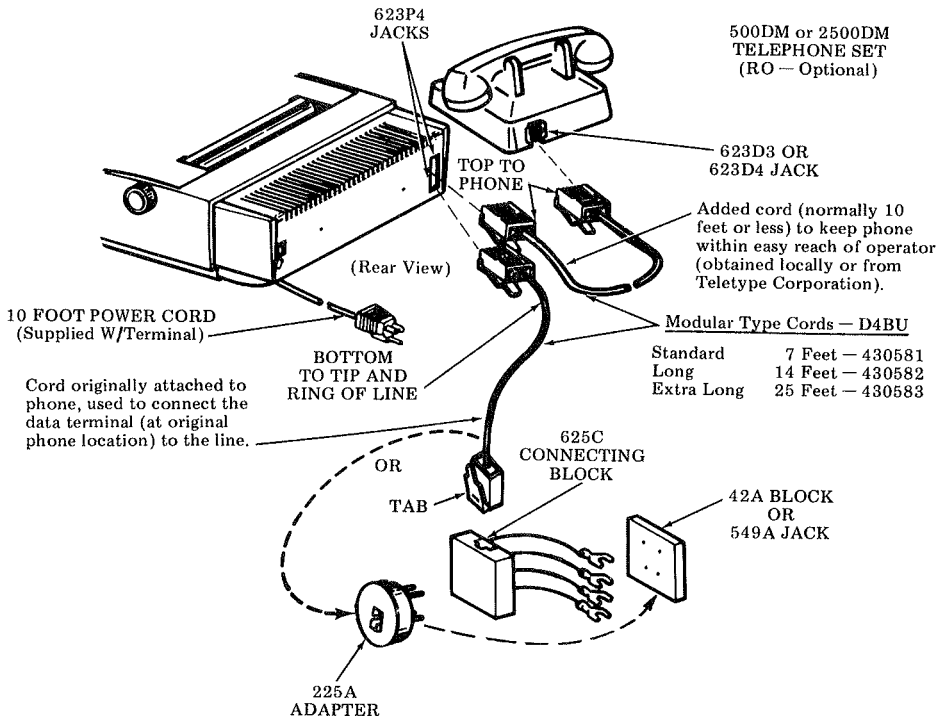

Fig. 4—Telephone Connection
Note: When installing a terminal with an integrated TDU (KSR or RO w/telephone) obtain locally or from Teletype Corporation at least one D4BU modular cord of the appropriate length to connect between the telephone and the 43 Teleprinter (Fig. 4). Discuss with customer where the teleprinter and phone are to be installed before obtaining cord(s).
3.08 Unplug the modular plug of the D4BU cord from the modular jack associated with the telephone specified on the service order (compress tab to release) and connect it to the lower connector marked LINE on the rear of the TDU accessible through the opening in the left rear of the bustle cover (Fig. 4). If telephone is not to be placed at original phone location, a